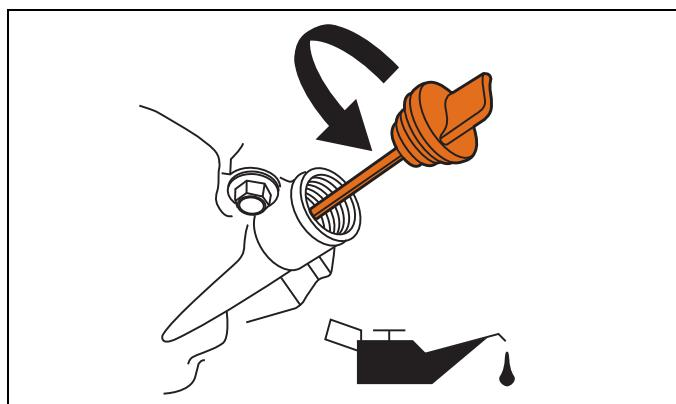

Figure 6-1. Fill Engine Oil
3. Remove oil fill cap (Figure 6-1).
4. Remove oil fill cap (Figure 6-1).